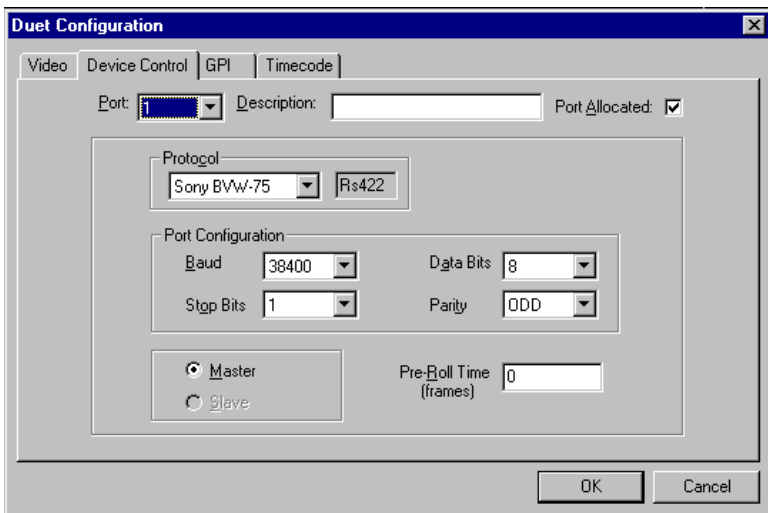

Figure 6-8. External Device Control (Serial) Tab
- [] 3. Next click on the **DEVICE CONTROL** tab as seen in **Figure 6-8**.